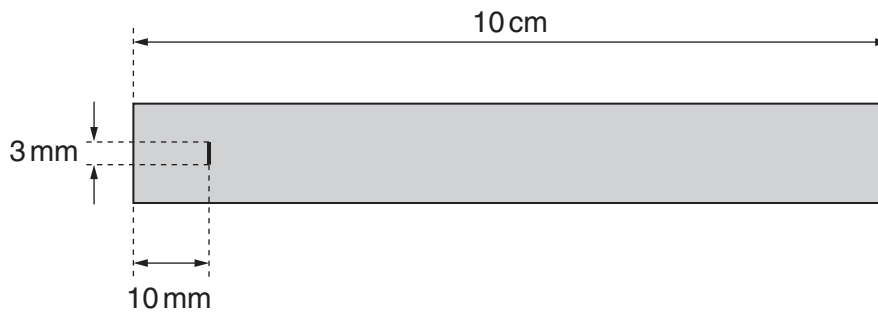

Fig. 2.2
- 2 The wooden rods should have a small line of length 3 mm drawn 10 mm from one end, as shown in Fig. 2.2.